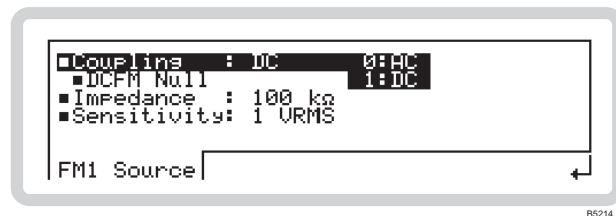

Fig. 3-76 External source
- 2 Press **SIG GEN** to show the main screen. Touch the appropriate modulation soft box, followed by **Ext**, to select the function. Press **Ext** to view the external source menu (Fig. 3-76).